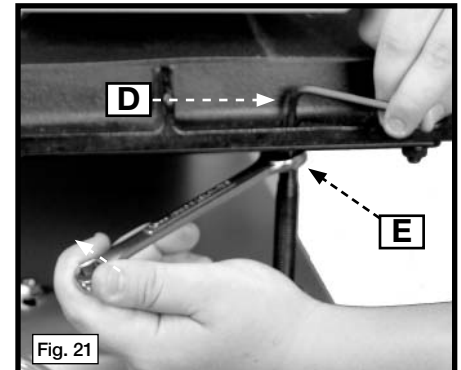

Fig. 21
- Use a 1/2" wrench to hold the leveling bolts (one shown at (E) Fig. 21). Use a 3/16" hex wrench (D) to loosen the hex bolts. Rotate the leveling bolts one flat at a time until the table is parallel to the drum.
NOTE: A turn of one flat on the leveling bolt will raise or lower the table .010" (.25 mm). Turn the leveling bolt (E) Fig. 21 clockwise to lower the table or counter-clockwise to raise the table. Adjust both leveling bolts the same amount and in the same direction.